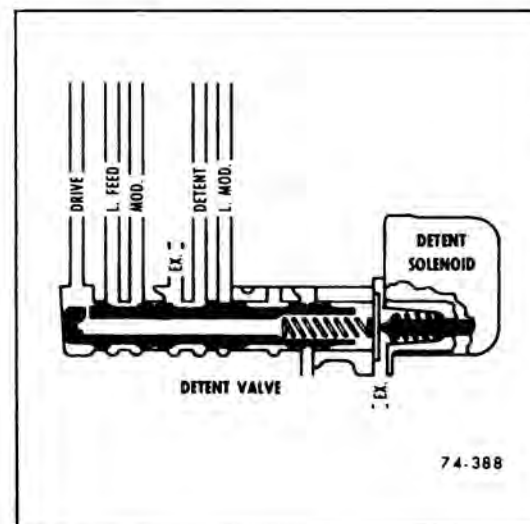

Figure 74-16—Detent Valve
h. Detent Valve (See Figure 74-16)